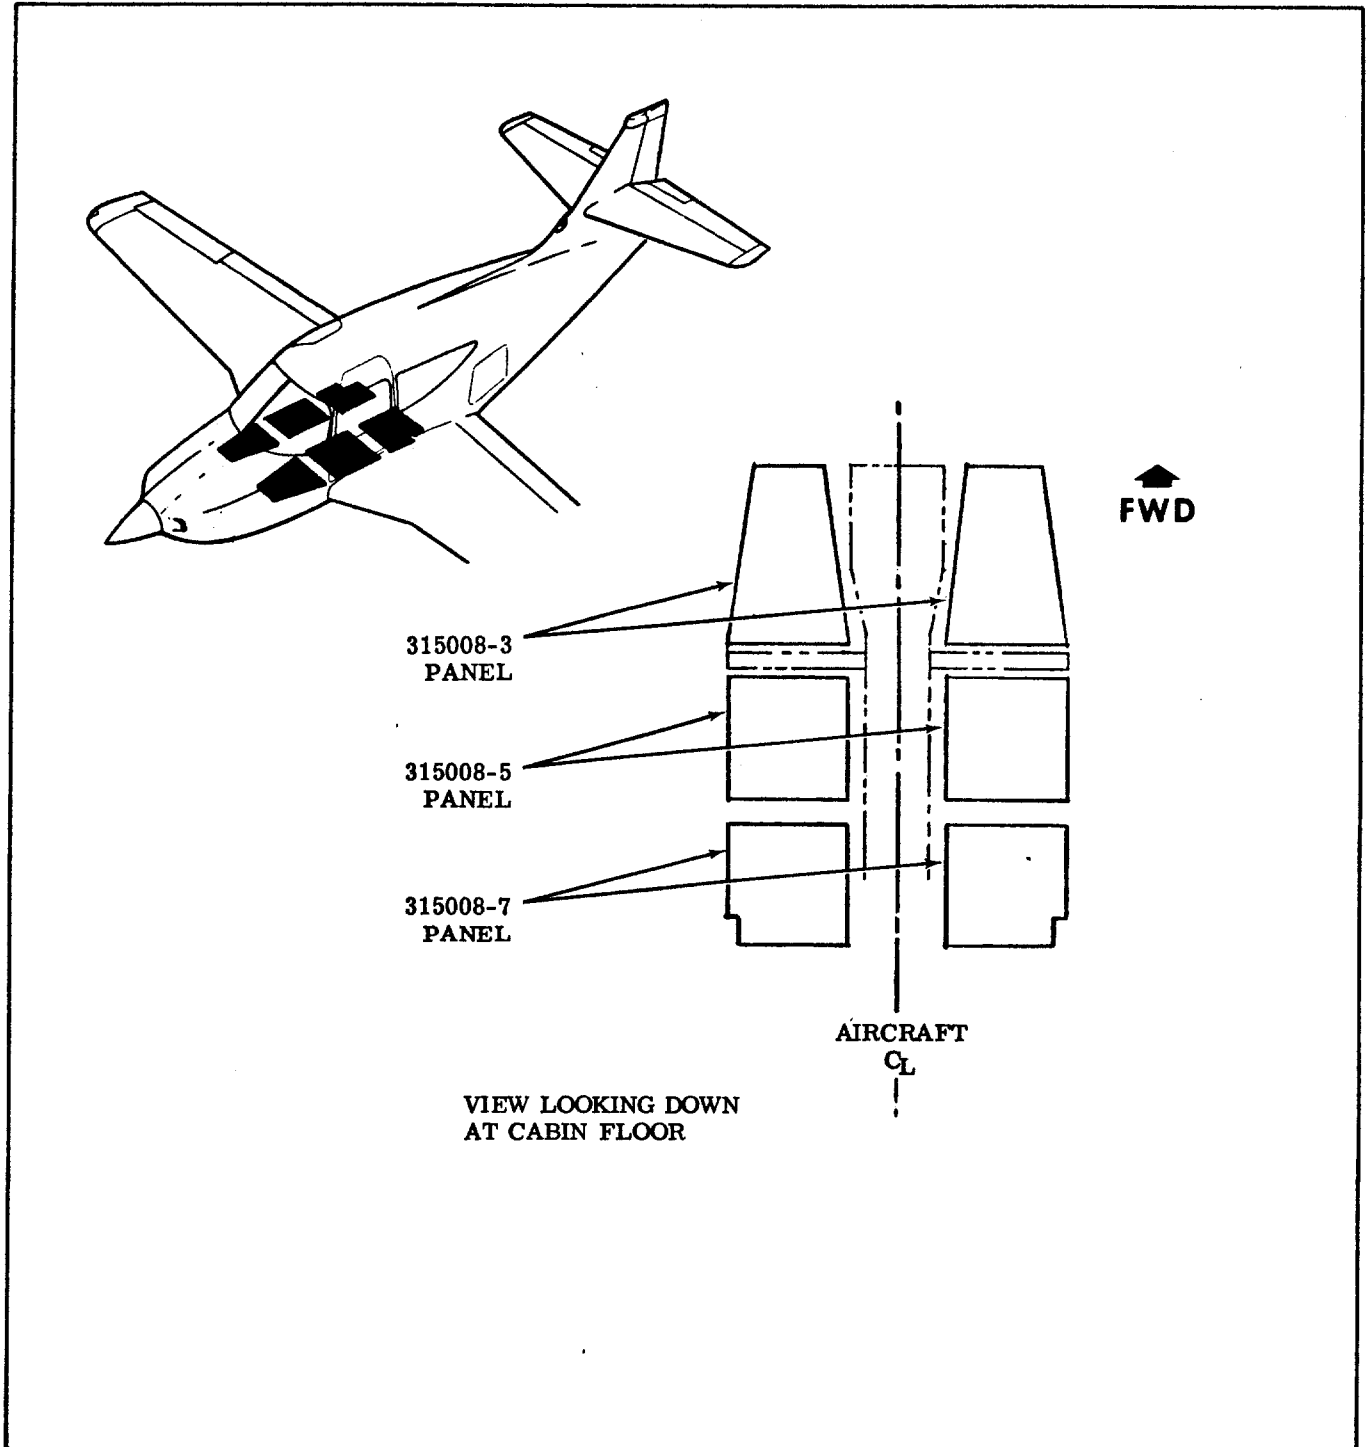

Figure 1.
1. Sand all areas where noise reduction panels are to be installed with 400 grit sandpaper (see Figures 1 and 2.).